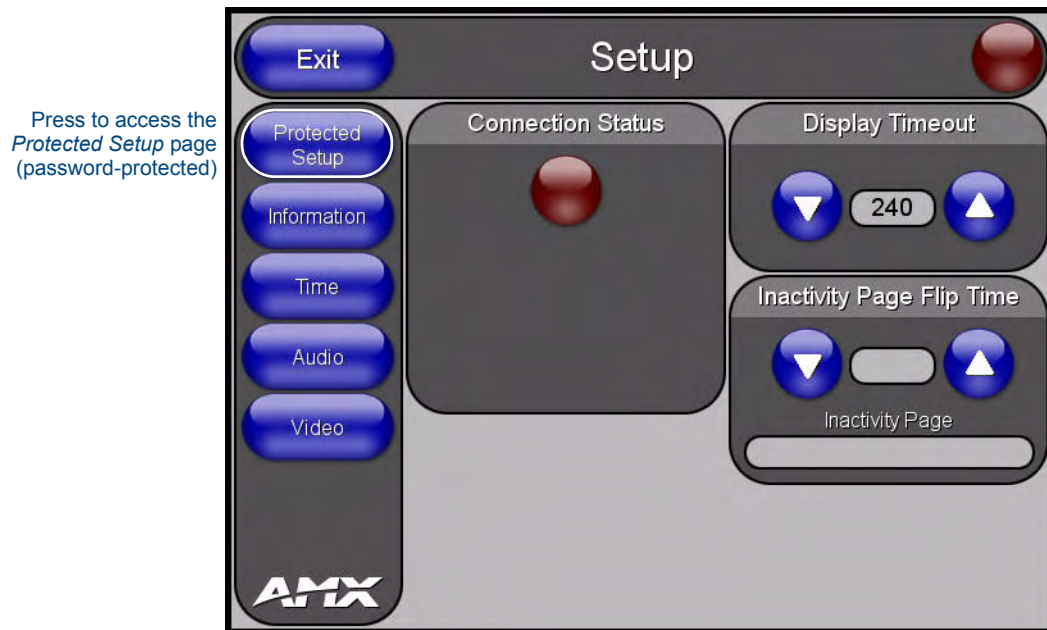

FIG. 35 Setup page - Protected Setup button
1. Press the front panel SETUP pushbutton to open the *Setup* page (FIG. 35).